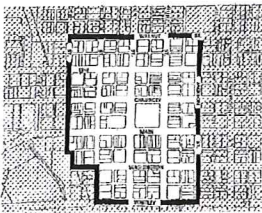

FIGURE 6.1
E. The CBD was established by city Ordinance Number 984, which contains those properties located in the following map (Figure 6.1) as part of the City Central Business District Economic Revitalization Area.